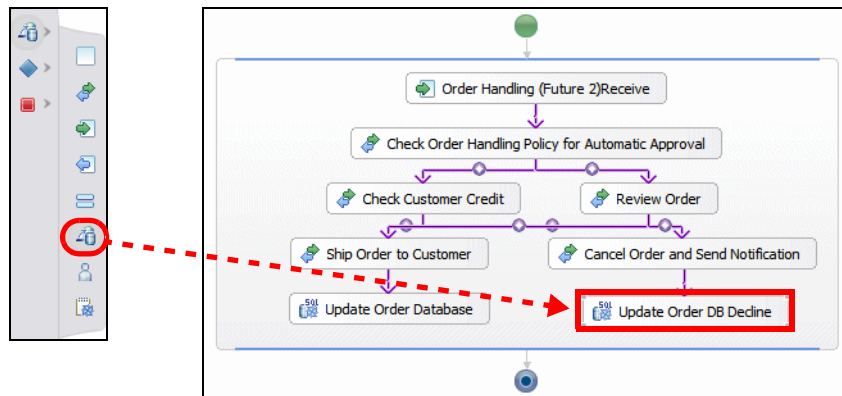

Figure 16-16 Adding an information service for declined orders
- ▶ Connect Cancel Order and Send Notification to the information service (Figure 16-16).